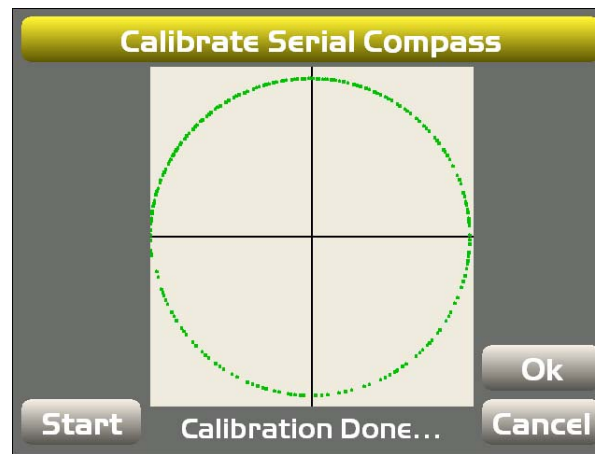

Figure 60: Rotate the Compass and Tap Start
7. Tap **Start** in 3D-MC, and slowly rotate the compass (Figure 60).